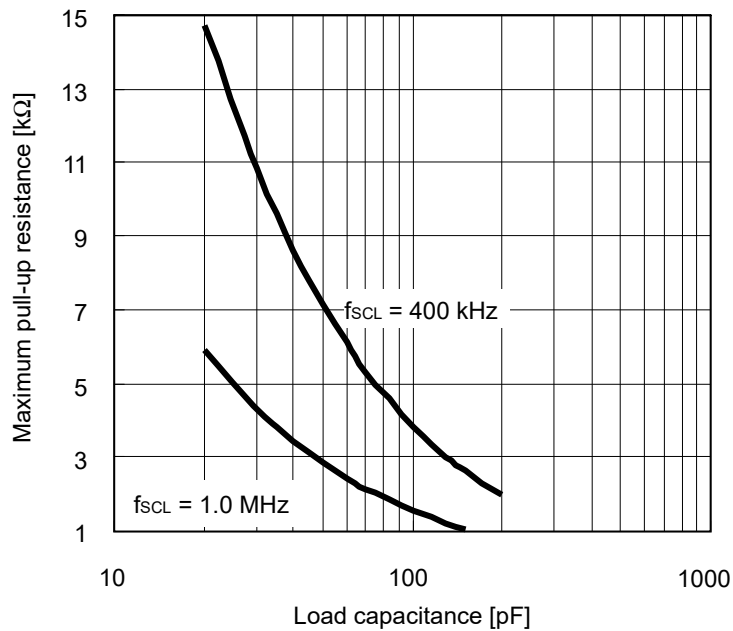

Figure 9 Output Load
*1. Since the output form of the SDA pin is Nch open-drain output, the SDA output delay time is determined by the values of the load resistance and load capacitance outside the IC. Figure 9 shows the relationship between the output load values.